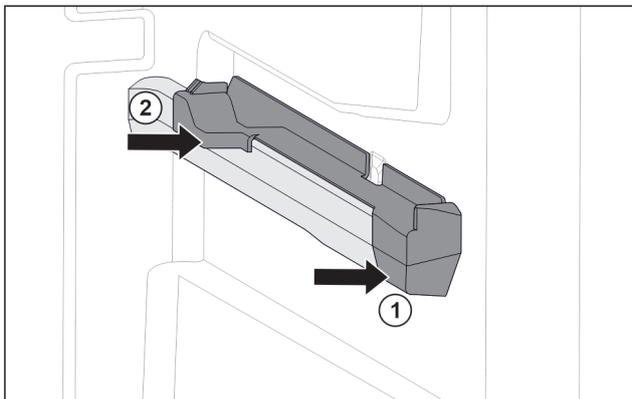

Fig. 70 Attachment on the right moulded rib
- ▶ Position attachment on moulded rib at the front. Fig. 70 (1)
- ▶ Press on attachment at the back. Fig. 70 (2)